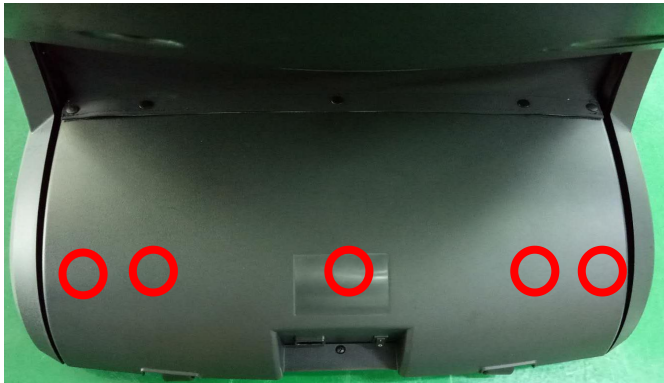

figure1
2.Pull out 5 cloth pins in turn perpendicular to the direction of the upper cover, as shown in figure 1;